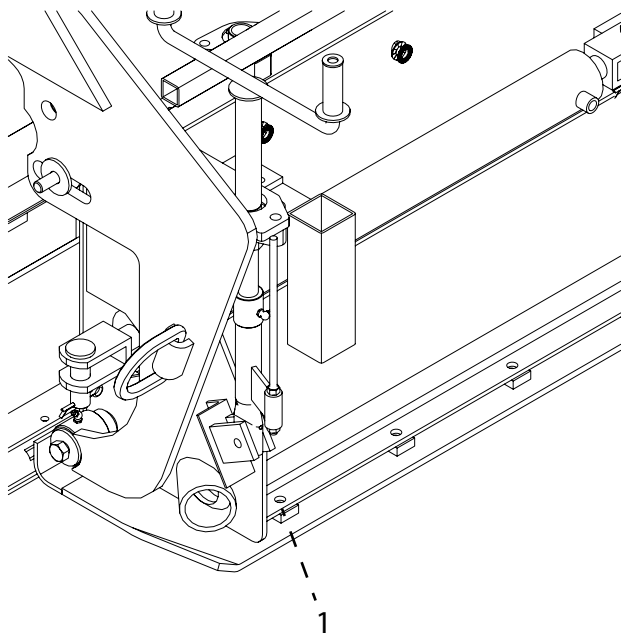

Figure 5-6. Wear Plate Mounting Bolts
3. Remove the twenty-four (24) bolts (**Figure 5-6,1**) holding wear plate to screed frame.